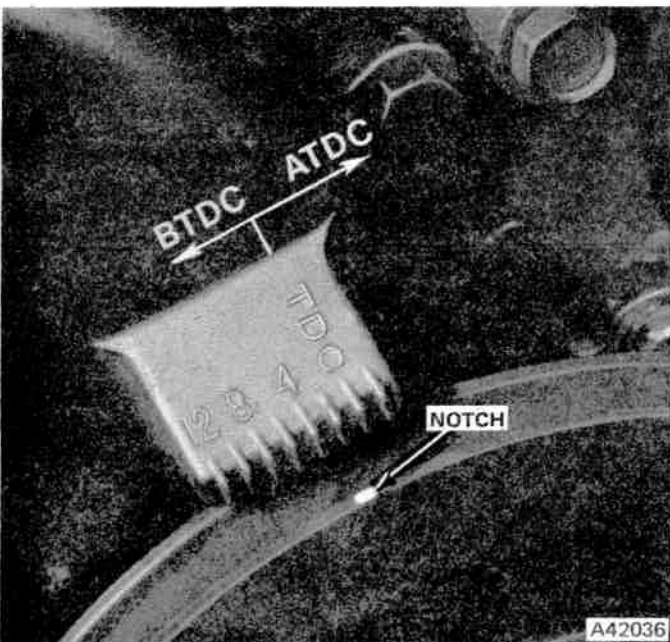

Fig. 3-53 Ignition Timing Marks - Six-Cylinder
(4) Position No. 1 piston at TDC on the compression stroke. To determine if the piston is on compression stroke, remove No. 1 spark plug, place thumb or compression gauge over the spark plug hole, and crank the engine slowly until compression pressure begins to build up. Continue to crank the engine until the timing mark on the vibration damper is aligned with the TDC mark of the timing degree scale as shown in figures 3-53 and 3-54.